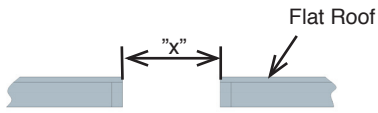
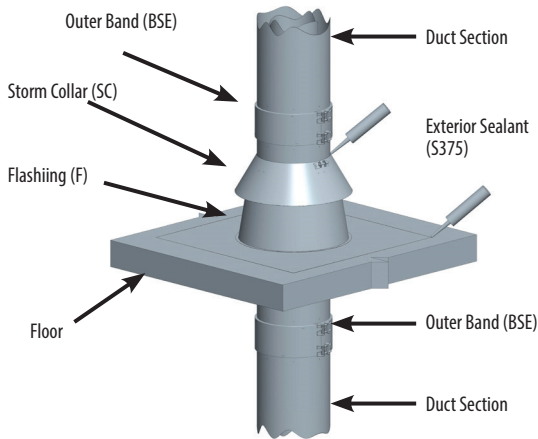

Figure 65a - Minimum Opening for flat roof
Figure 66 - Installation of Flashing - View Top of the Roof
1. Cut opening to dimensions specified in Table 9, 10 & 11. See Figure 65a for flat roof and Figure 66 for a sloped roof.
5. The Storm Collar (SC) is placed around the chimney and sealed to the casing with outer joint sealant S-350. See Figure 66 for an installed Flashing (F)